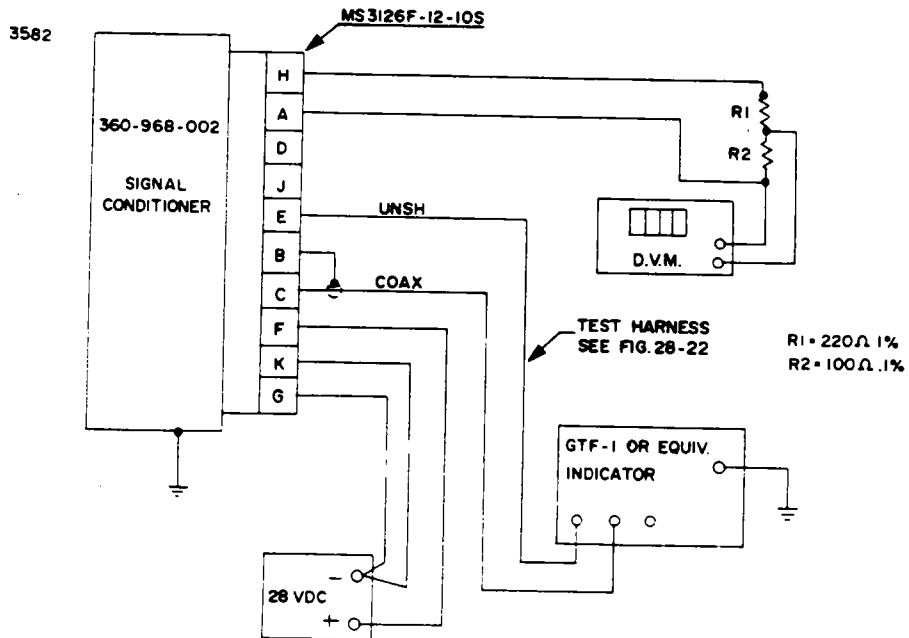

Figure 28-21. Signal Conditioner Test Set-Up.
1. Connect signal conditioner to test equipment (refer to figure 28-21).